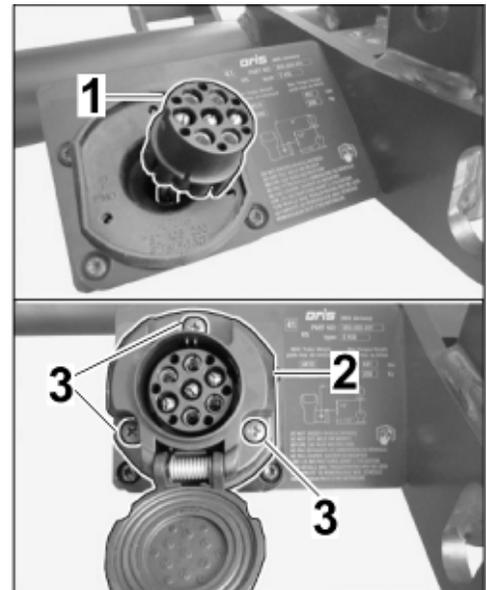

Figure 15
3.1.2 Thread trailer socket through holder plate on towbar system (⇒ Figure 15 -top-).
Secure trailer socket on the holder plate with three screws (⇒ Figure 15).